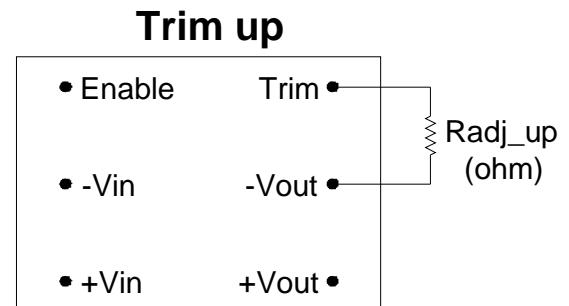

Figure 2. Circuit Configuration to Increase Output Voltage
**To adjust  $V_o$  to a higher value**, please refer to Figure 2. An external resistor,  $R_{adj\_up}$ , should be connected between the Trim Pin and the  $-V_{out}$  Pin. From equation (1),  $R_{adj\_up}$  resistor can be determined for the required output voltage.